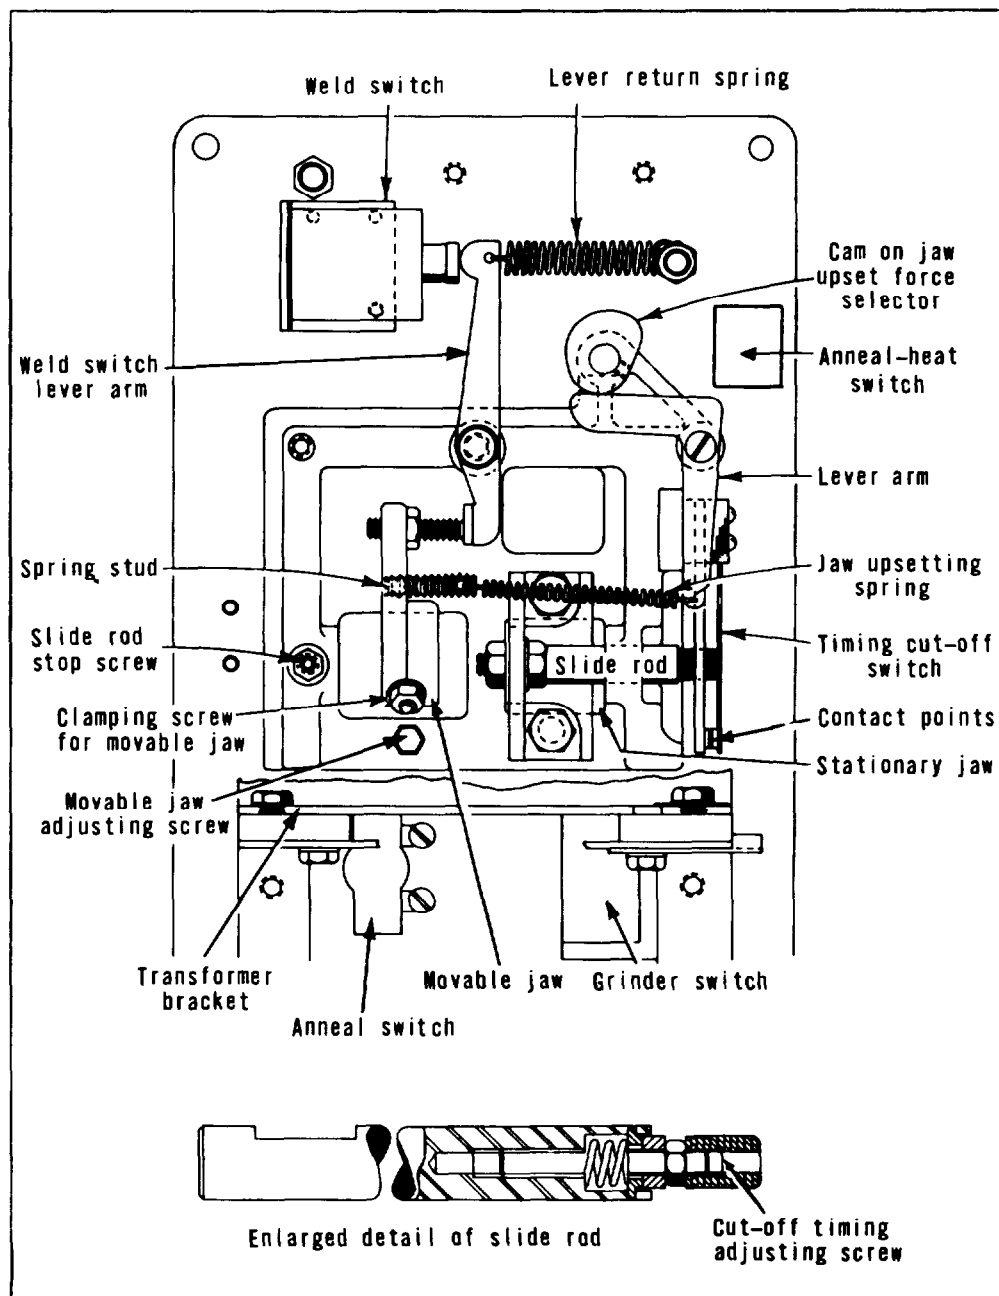

Fig. 27 - Adjustment and service locations
(b) The stationary jaw (fig. 27) can be moved slightly on its mounting screws by loosening the screws and tapping the jaw.
The slide rod stop screw (fig. 27) should not be so tight that it binds on the slide rod. Turn screw in, then back off 3/4 turn.
If the weld switch (fig. 27) contact points are welded together, pitted, corroded, or covered by oxide, they must be replaced. If the points are only dirty, clean them with a commercial point cleaner and a clean, lintless cloth (such as linen tape).
(1) Defective cut-off switch may not break the circuit at end of welding operation. Replace cut-off switch,
(2) Cut-off switch not adjusted correctly. Adjust switch as described in Operation Chapter.
(3) Points of cut-off switch welded together. Replace switch.
(4) Slide rod sticking because of rust or dirt. Clean and oil rod - see Maintenance Chapter.
(5) Slide rod movement obstructed because stop screw (fig. 27) too tight on rod. Stop screw should be turned in tight, then backed off 1/2 to 3/4 turn.
(6) Jaw movement obstructed by kinked jaw cable or tangled wires. Bend cable and untangle wires.
(7) Movable jaw binding on jaw bearings because of tilt adjustment screw turned in too far. See "Jaw Alignment" in Operation Chapter.
(8) High voltage, check for too high incoming voltage to machine. Welding voltage across jaws should be 3-1/2 volts.